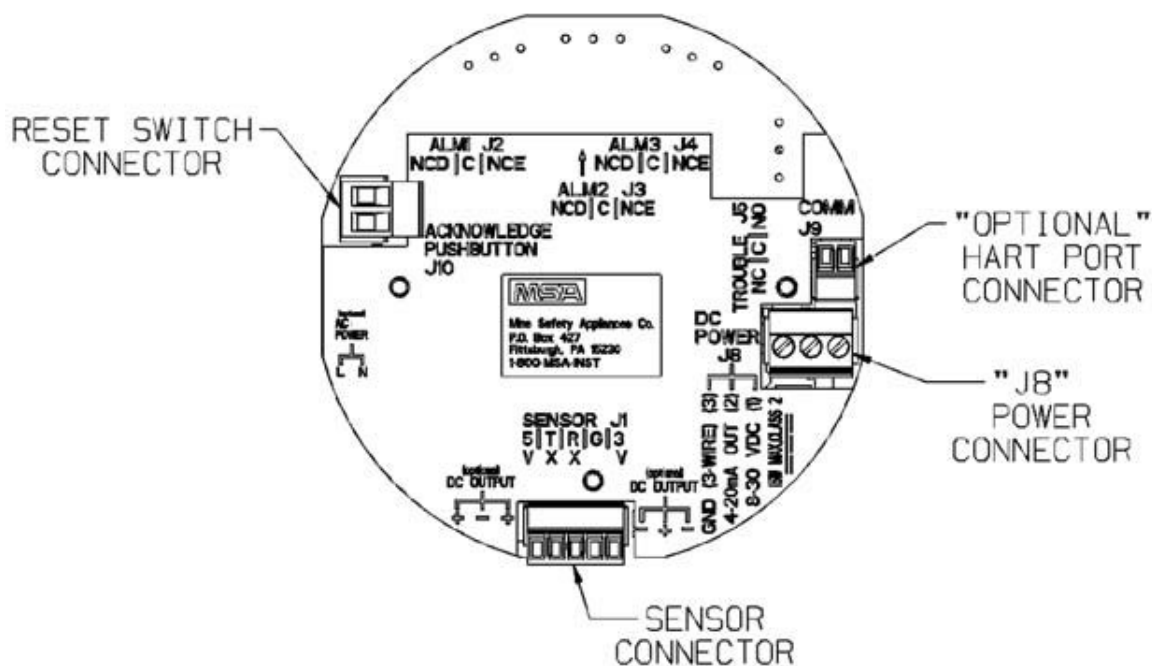

Fig. 17 Two-Wire Printed Circuit Board (with HART Protocol)
(1) Connect 12-30 VDC power lead to J8-1 (see Fig. 17).